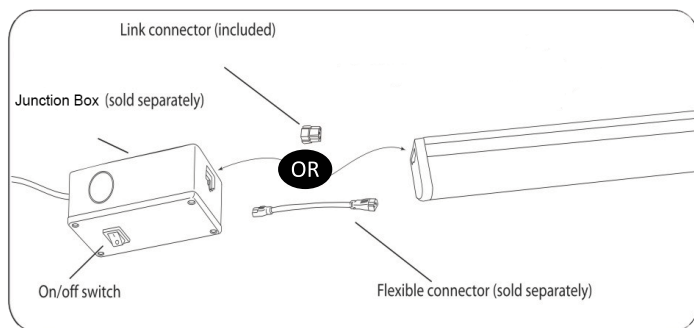

Figure 3
- 3) Connect power to the fixture with cord (LS3-PC6, sold separately) and plug into receptacle. Or refer to attached wiring diagram to complete hardwire connections; (Figure 3)